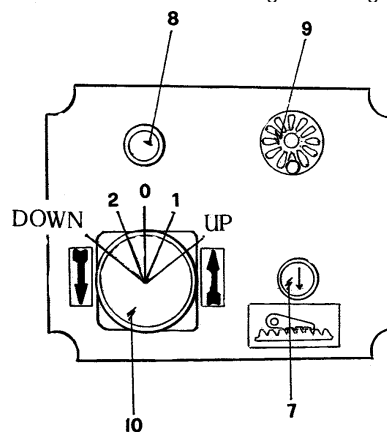

Fig.14
**6. BEDIENING EN GEBRUIK (Fig.14)**